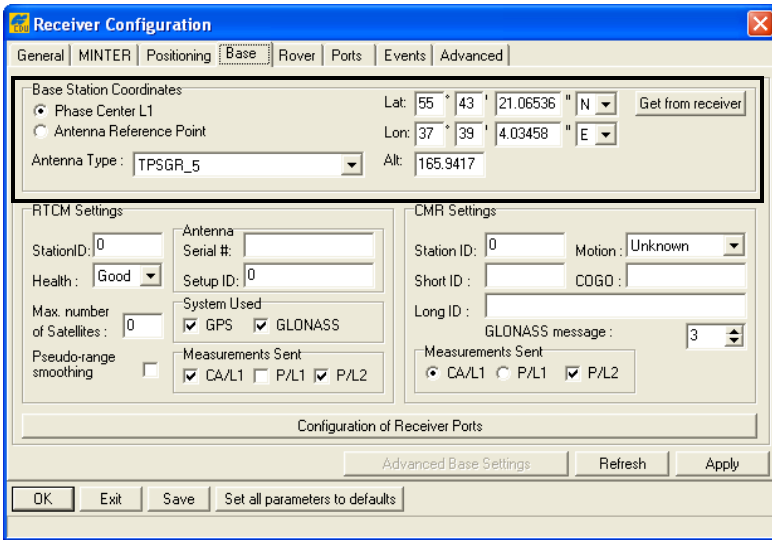

Figure 3-35. Base Configuration
10. For the Rover receiver, click the **Rover** tab and set the following parameters, then click **Apply** (Figure 3-35 on page 3-38).